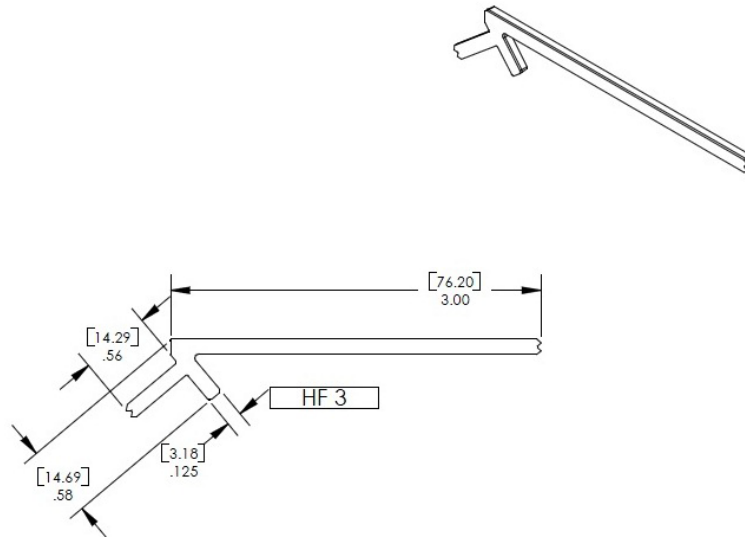

FIGURE 6 – HIDFAST FASTENER
5.6 Solid deck boards may be fastened using HIDfast HF3 hidden fasteners. One fastener is required at each support. See Figure 6. The outer edge of the first and last deck boards shall be fastened to each joist with one #8-9 TPI, 0.12-inch dia., and 2.5-inch-long stainless-steel trim screw.